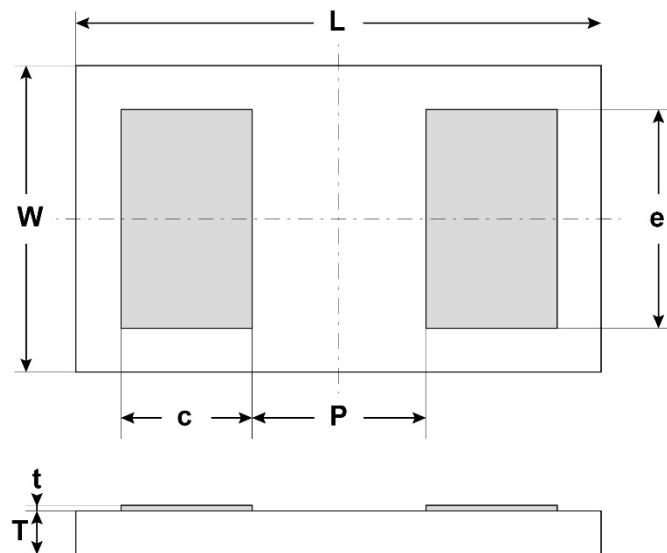

Figure 7 - Package isometric view
- (1) Other film frame carriers are possible on request
- (2) ENIG : 0.1µm Au / 5µm Ni
- (3) missing capacitors can reach 0.5%
- (4) refer to figure 7